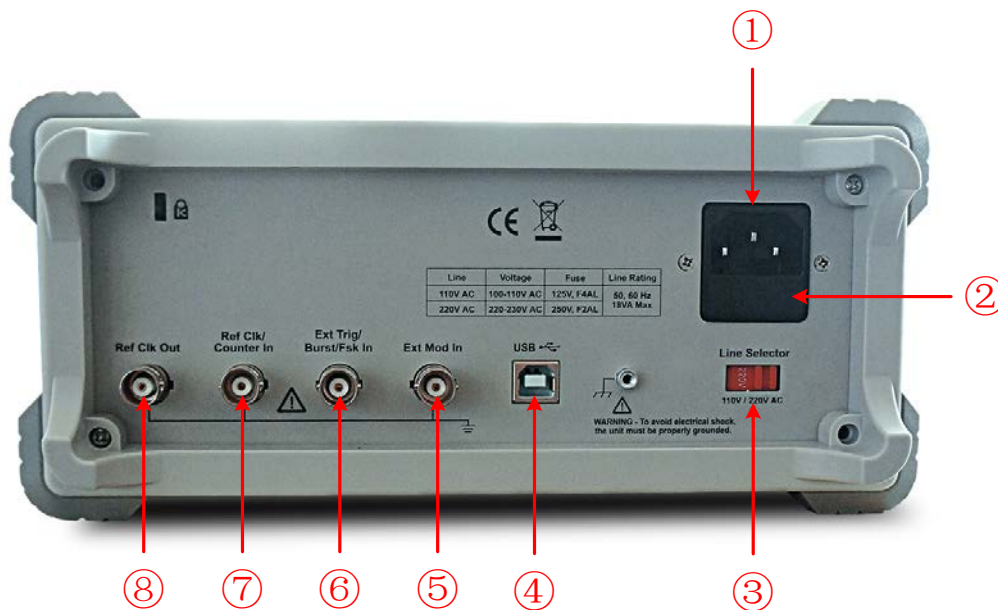

Figure 4-2 Rear panel overview
Adopt 100 - 110 VAC or 220 - 230 VAC power source. Users should regulate the voltage scale of the **Power Switch** according to the standards in their own country (see *Figure 4-2*) at the rear panel and use an appropriate fuse.
- (1) Turn off the power button at the front panel and remove the power cord.
- (2) Check if the fuse installed before leaving factory (250 V, F2AL) can match with the selected voltage scale; if not, pry the cover open using a straight screwdriver (see ② in *Figure 4-2*), change the fuse.
- (3) Regulate the **Power Switch** to the desired voltage scale.